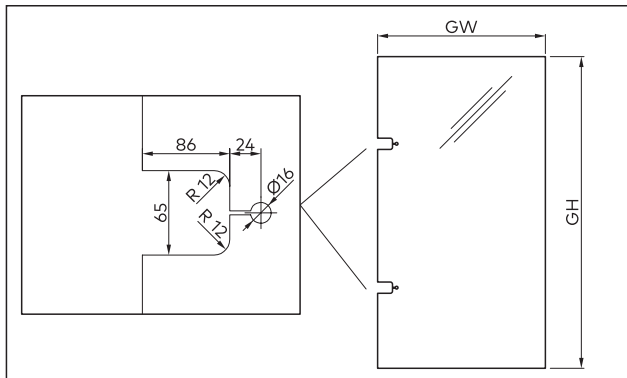

Fig. 7 Glass preparations for wall mounting with surface-mounted mounting plate
2. Check the dimensions of glass preparation (Fig. 7).